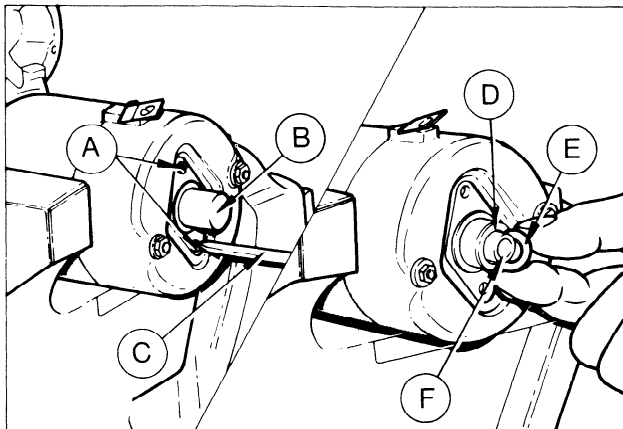
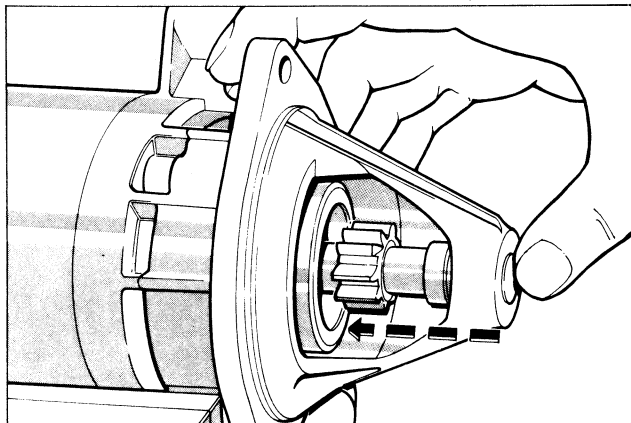

FIG. 6 End Housing Cap and Armature Shims
FIG. 11 Slide Armature in its Bearings
3. Remove two screws retaining commutator end housing cap. (Fig. 6) remove cap and rubber seal.
8. Slide armature in its bearings, Fig. 11, to obtain maximum possible protrusion of armature shaft at commutator bearing end. Install sufficient shims on armature end play when "C" clip is in place. Fit "C" clip (Fig. 6).
9. Place bearing cap seal in position on commutator housing, smear a small quantity of lithium based grease on end of armature shaft and refit bearing cap, securing with two screws (Fig. 6).